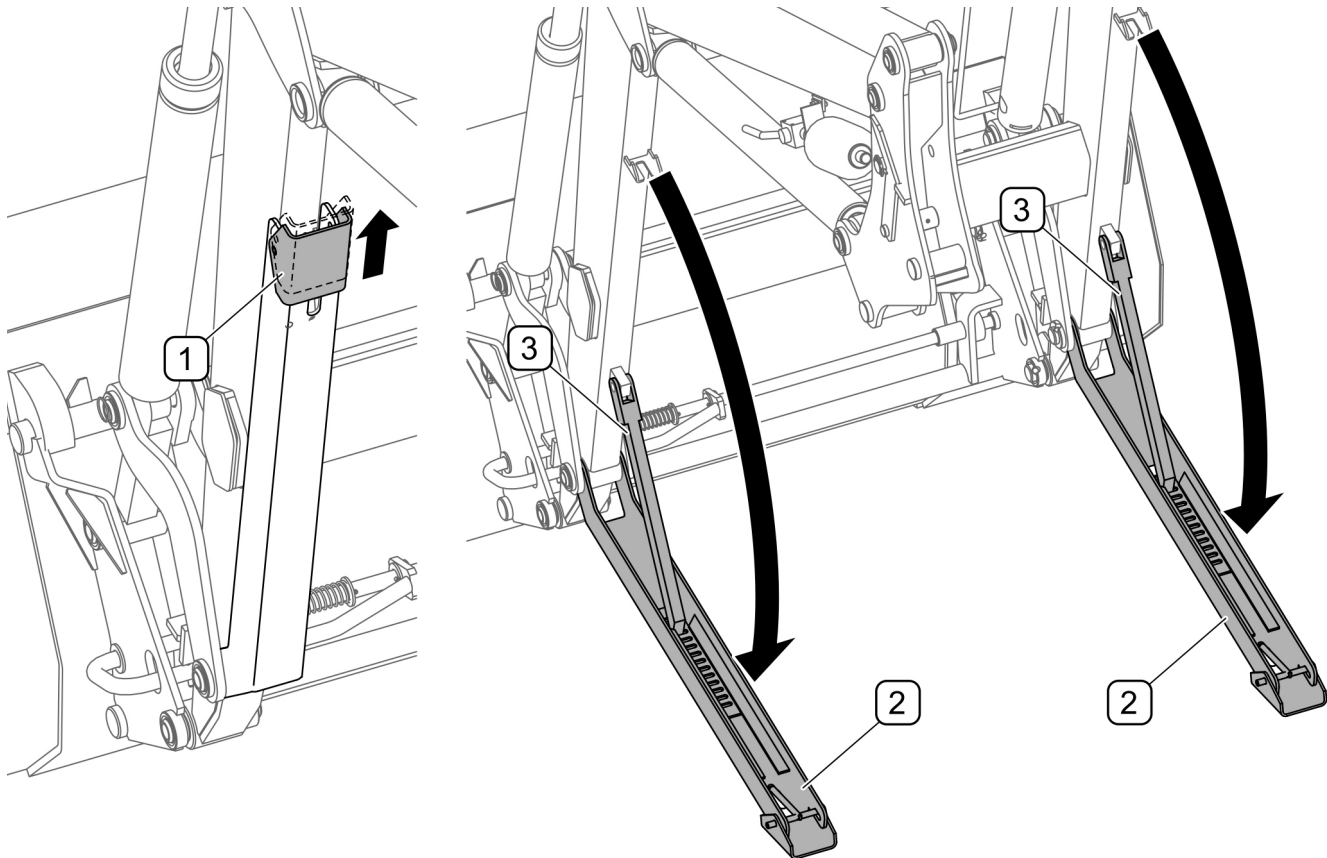

FIGURE 4.25 Parking supports
- pull out foot blocks (1) (FIGURE 4.25);
- lower parking supports (2) together with catches (3), onto the ground;